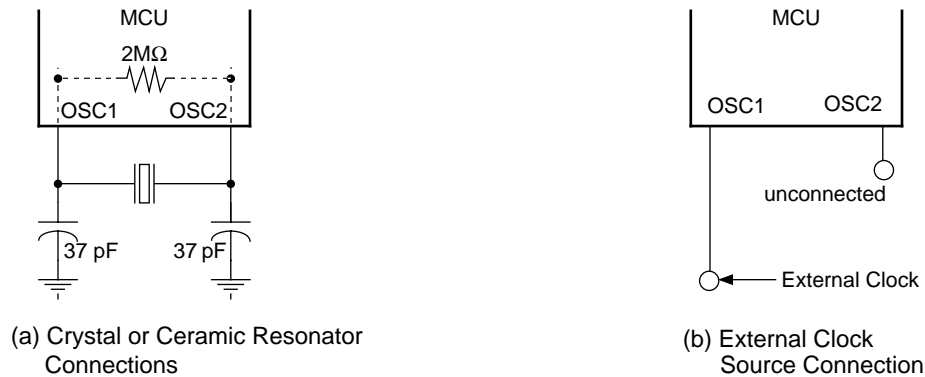

Figure 1-3. Oscillator Connections
1. A crystal as shown in **Figure 1-3(a)**
2. A ceramic resonator as shown in **Figure 1-3(a)**
3. An external clock signal as shown in **Figure 1-3(b)**
The circuit in **Figure 1-3(a)** shows a typical oscillator circuit for an AT-cut, parallel resonant crystal. The crystal manufacturer's recommendations should be followed, as the crystal parameters determine the external component values required to provide maximum stability and reliable start-up. The load capacitance values used in the oscillator circuit design should include all stray capacitances. The crystal and components should be mounted as close as possible to the pins for start-up stabilization and to minimize output distortion. An internal start-up resistor of typically $2M\Omega$ is provided between OSC1 and OSC2 for the crystal type oscillator.
In cost-sensitive applications, a ceramic resonator can be used in place of the crystal. The circuit in **Figure 1-3(a)** can be used for a ceramic resonator. The resonator manufacturer's recommendations should be followed, as the resonator parameters determine the external component values required for maximum stability and reliable starting. The load capacitance values used in the oscillator circuit design should include all stray capacitances. The ceramic resonator and
An external clock from another CMOS-compatible device can be connected to the OSC1 input, with the OSC2 input not connected, as shown in **Figure 1-3(b)**.